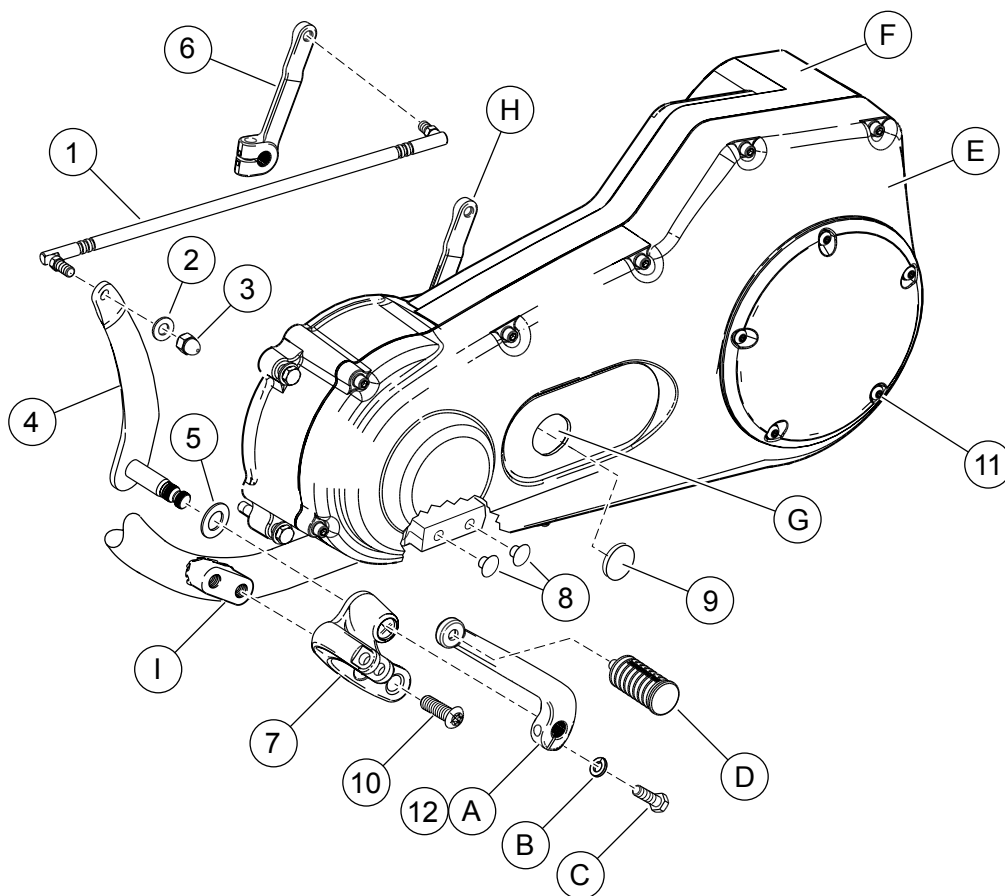
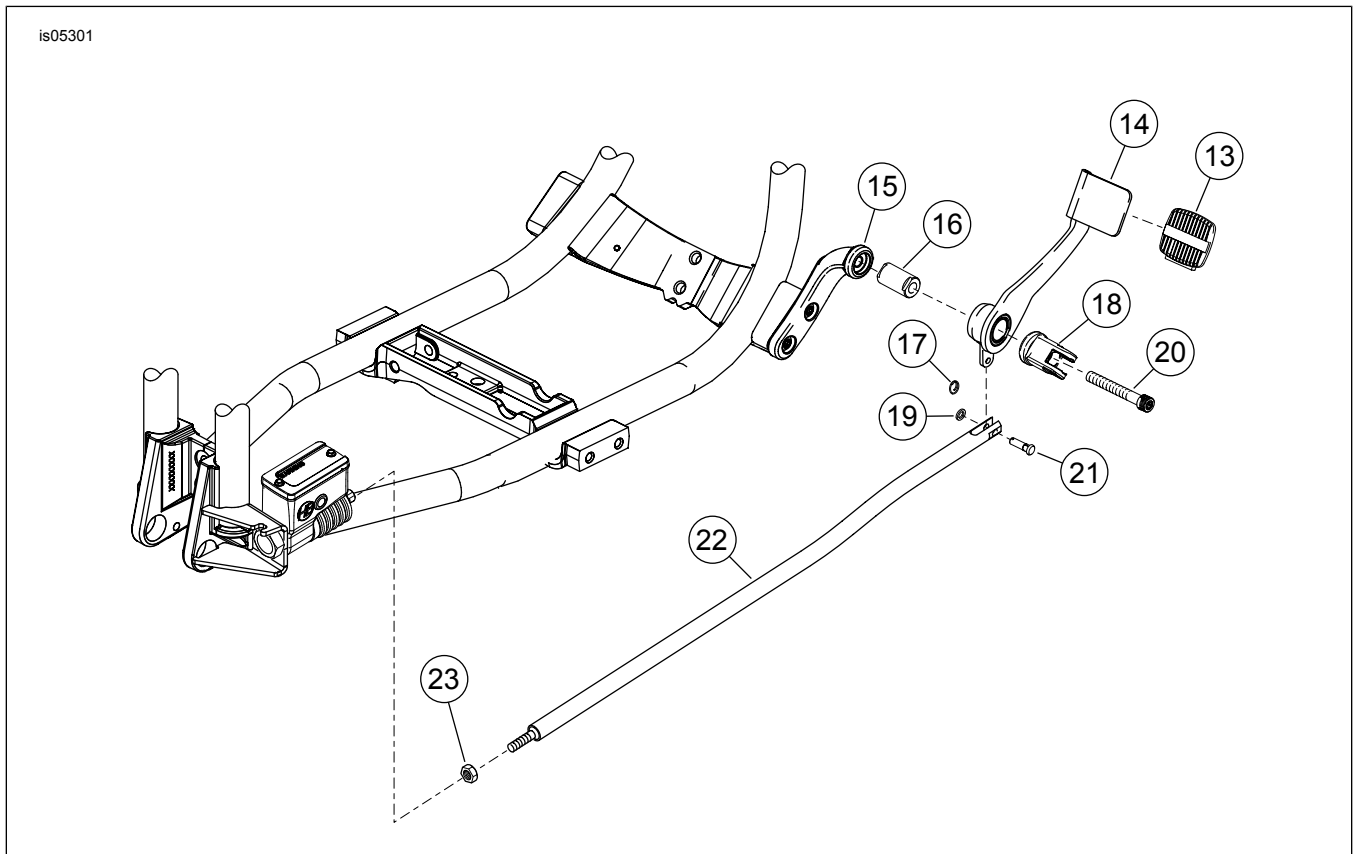

Figure 4. Service Parts: Dyna Forward Foot Control Kit
Figure 5. Service Parts: Dyna Forward Foot Controls Kit
See Figure 4 and Figure 5. The mounting brackets and clevis (7, 18 and 21) may also be purchased separately to upgrade the standard FXDWG to this black kit.
See Figure 4 and Table 1 and Figure 5 and Table 2.
- See Figure 4. Install a spring washer (5) on the shifter lever shaft (4). Coat the shaft with with a light lubricant and slide the shaft into the new shifter bracket (7). Install the new shifter bracket onto the frame mounting holes using TORX® screws (10). Tighten the screws to 41–47 N·m (30–35 ft-lbs).
- Install the shifter peg (D) on the new foot shifter lever (12) using Loctite 243 Blue. Torque to 10.8–16.3 N·m (8–12 ft-lbs).
- Install the new foot shifter lever (12) on the shifter shaft (4) protruding from the shifter bracket (7). Tighten the foot shifter lever retaining screw to 24.4–29.8 N·m (18–22 ft-lbs).
- Using a few drops of Loctite 243, install the new shifter rod (1) onto the transmission shifter lever (6) and shifter lever (4). Tighten acorn nuts to 10.8–16.3 N·m (8–12 ft-lbs).
- See Figure 5. Loosen the brake rod jam nut (23) at the rear brake master cylinder.